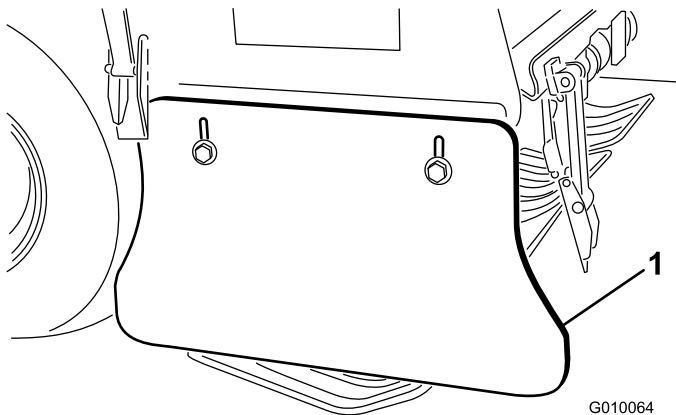

Figure 63
1. Loosen the bolts and nuts securing the side shield to frame (Figure 63).